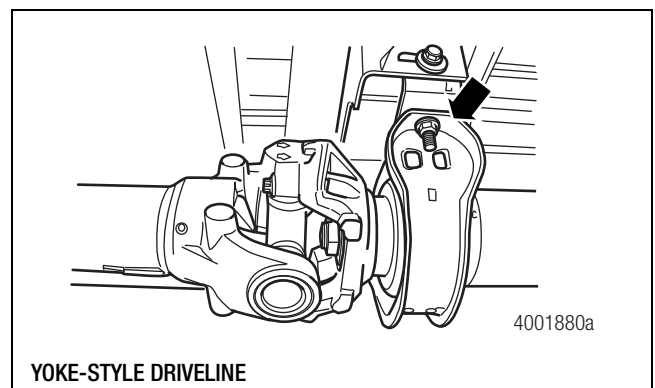
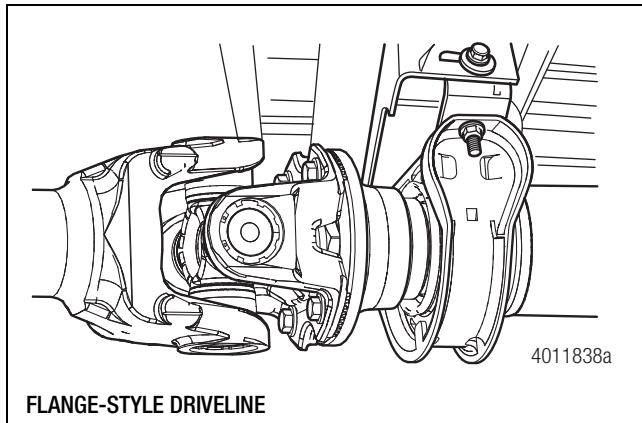

Figure 3.9
Figure 3.10
2. Inspect the center bearing bracket bolts for looseness. Figure 3.9 and Figure 3.10.